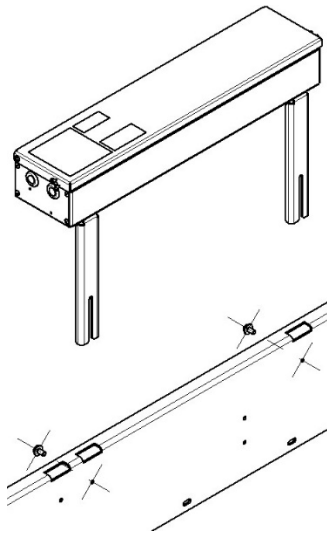
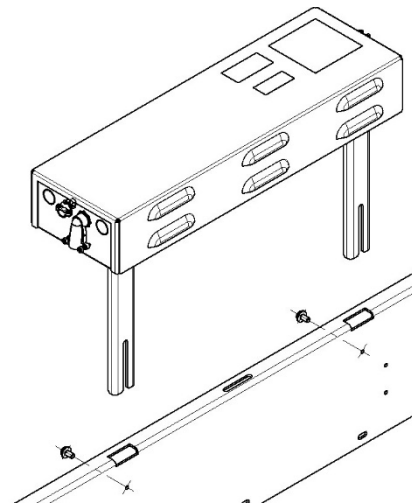

Figure 16 – Siemens Control Box
Figure 17 – Delta Control Box
To attach the new control box assembly, you are going to loosen the (2) 5/16-18 screws to slide out the Siemens control box as shown in Figure 16. Next, slide the Delta control box into the middle two windows located at the top of the header flange, shown in Figure 17. Tighten the screws once you are satisfied with the desired height. For reference, the difference between the Siemens and Delta control boxes is that the Delta control box has louvers on the front and back cover, this physical feature can easily help you distinguish the two control boxes.